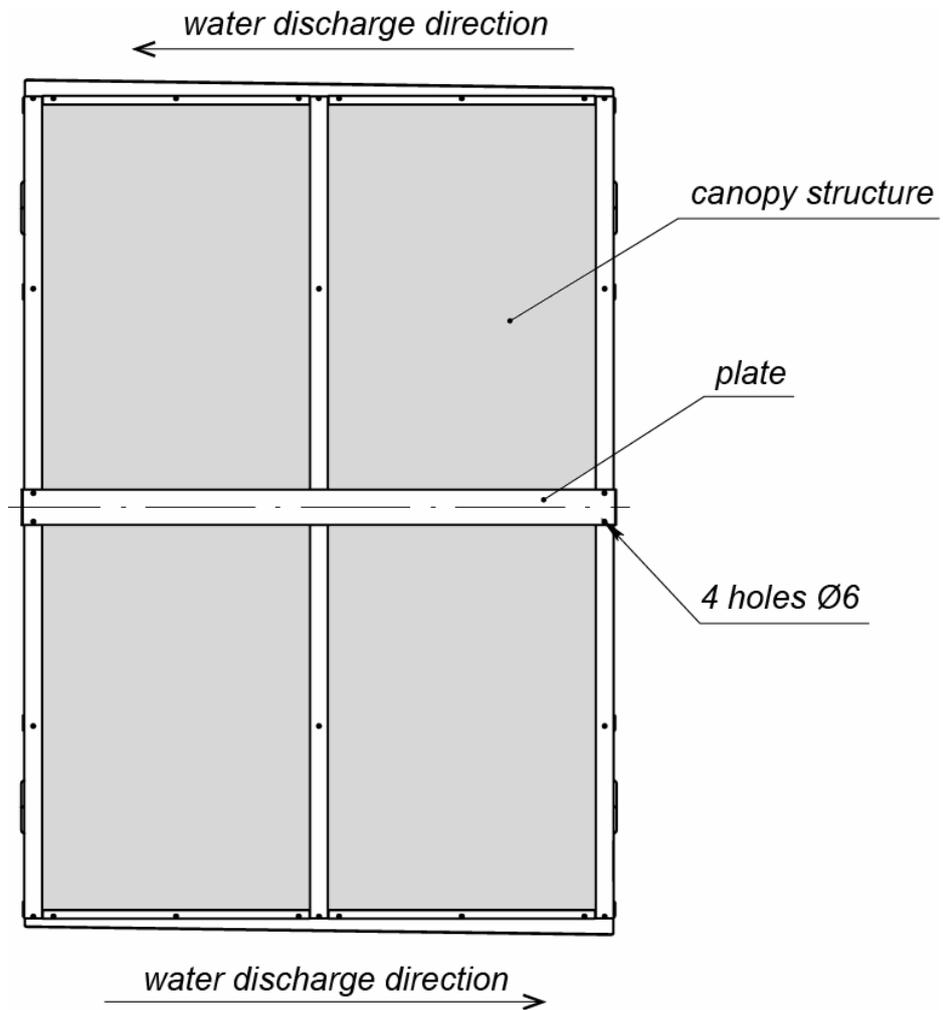

Figure 5. The top view of the connected half-frames (1) and (2) with the installed jointing plate (5)
14. Set the jointing plate into working position, fixing it with 4.2×16 self-tapping screws (4 pcs.), (see Figure 5).